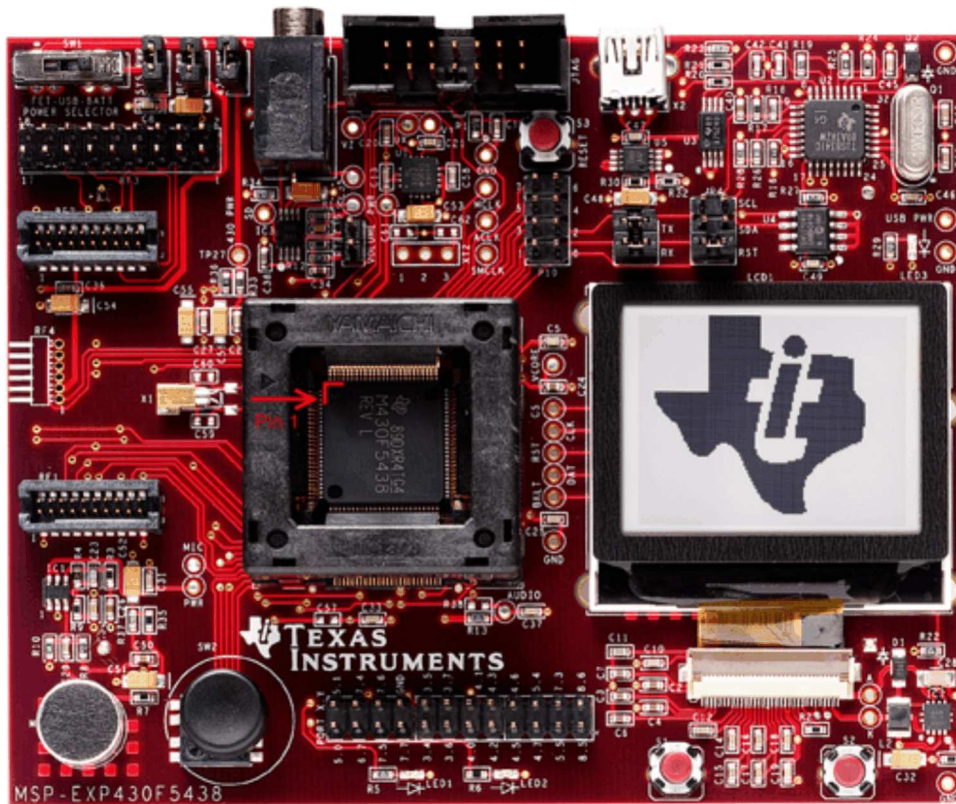

Figure 1-1. MSP-EXP430F5438 Experimenter Board
3. Populate the three headers on JP4 (SCL, SDA, RST) and insert the MSP430F5438 device into the socket with pin 1 at the top-left corner of the socket (see Figure 1-1). It is OK to use the jumpers on JP5 to complete this procedure.